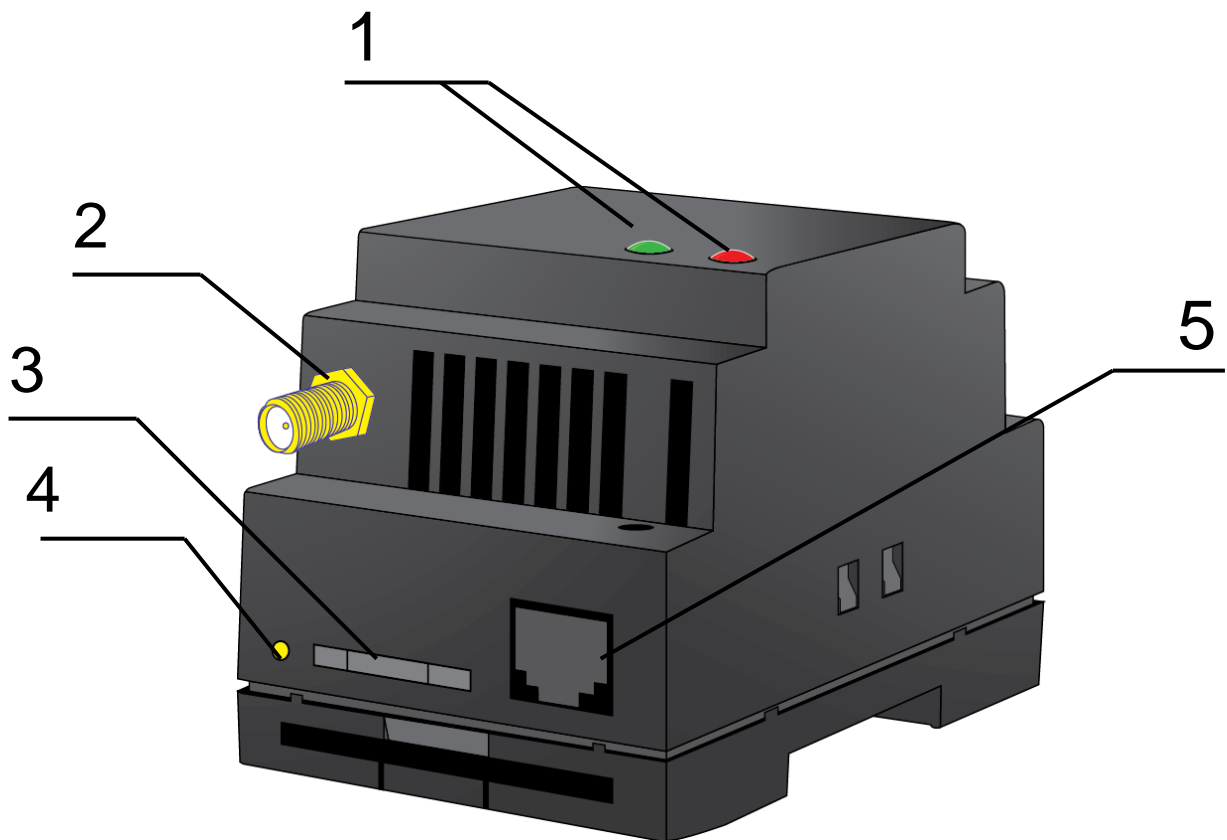
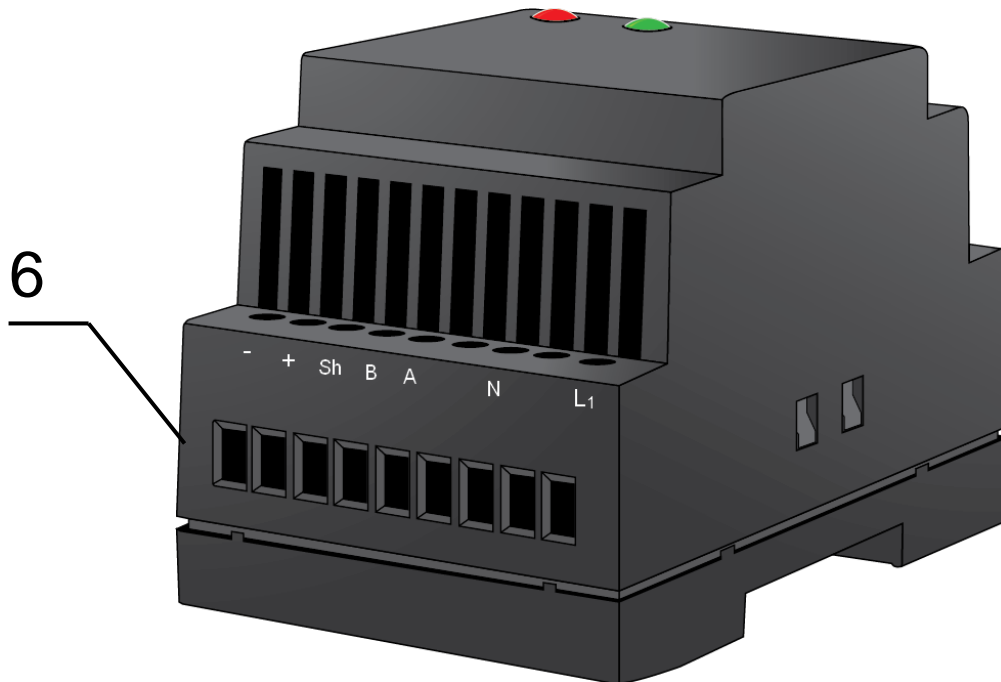

Fig. 2.1 Front panel
Fig. 2.2 Back panel
The TG21 modem is a compact-size device encased in a plastic housing. The device general view is given in Fig. 2.1 and Fig. 2.2
- remove a SIM card tray pressing the eject button (see Fig. 2.1.);
Connect a GSM antenna and a switching cable (RS485). Turn the modem's power supply on via power connector or disruptive connector (see Fig. 2.2). After the modem has been powered, it will start. It will be indicated with frequent flashing of green LED (see Table 2.3). If PIN code is switched off, registration within network will occur automatically. As soon as the registration is complete the modem switches to an operation mode, the indicator blinks less frequently.